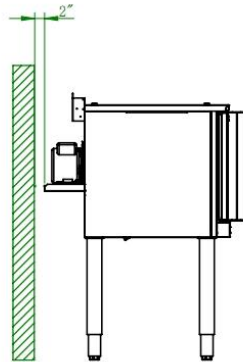

Fig.1
4. Install the unit at least 5cm from the wall if the wall does not bear a minimum temperature of 150°C (see Fig.1). If the unit is placed very close to the wall, partition walls, kitchen cabinets, decorative walls, etc., we recommend that they are made with a non-combustible material with a proper thermal insulation. Pay attention concerning fire prevention.